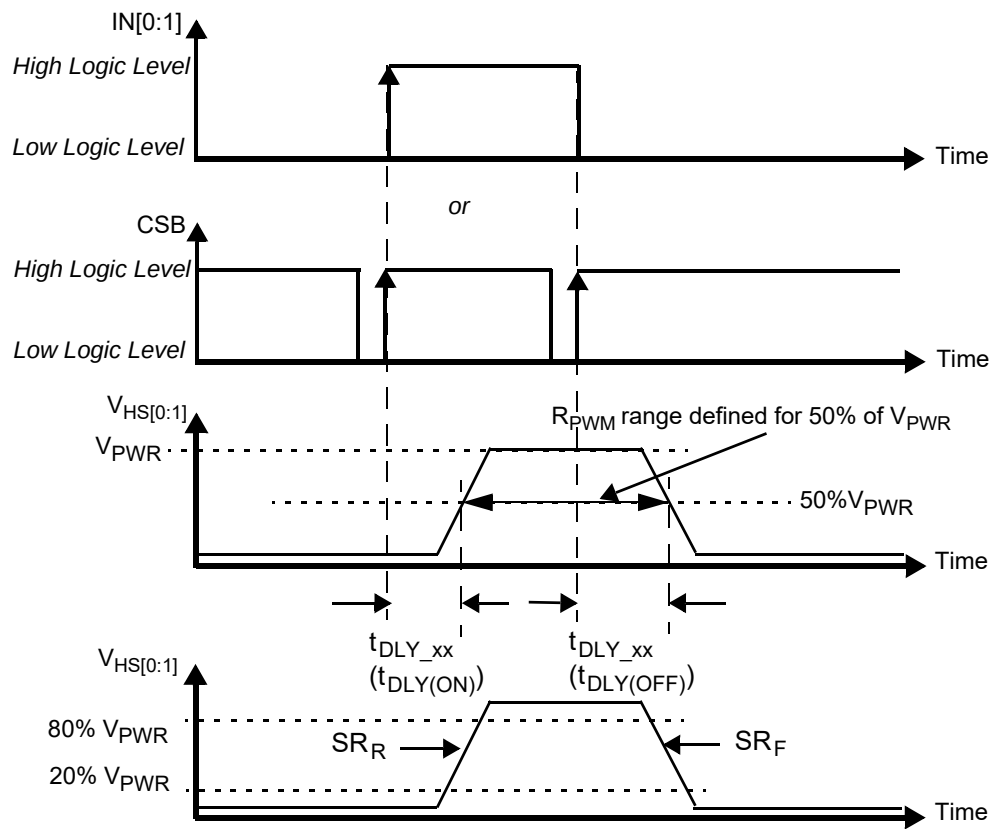
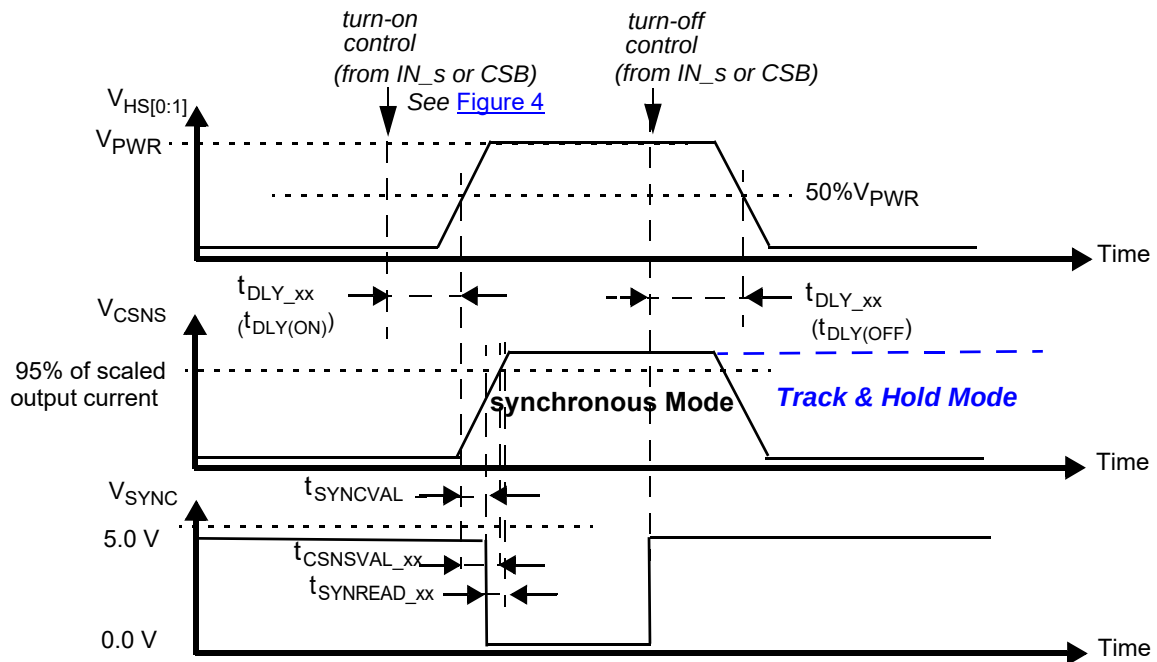

Figure 4. Output voltage slew rate and delay
Figure 9. Synchronous and Track & Hold current sensing modes: associated delay and settling times
30. Rising and Falling edge slew rates specified for a 20 to 80% voltage variation on a $10\text{ }\Omega$ resistive load (see Figure 4).
32. Time required to switch off the channel after detection of overtemperature (OT), overcurrent (OC), SC or UV error (time measured between start of the negative edge on the FSB pin and the falling edge on the output voltage until $V(\text{HS}[0:1]) = 50\%$ of V_{PWR}).
33. Settling time ($= t_{CSNSVAL_xx}$), SYNC output signal delay ($= t_{SYNCVAL_xx}$) and Read-out delay ($= t_{SYNREAD_xx}$) are defined for a stepped load current ($100\text{ mA} < I(\text{LOAD}) < I(\text{OCLX A}_0 \text{ FOR CSNS_RATIO_S} = 1, \text{ AND } 300\text{ mA} < I(\text{LOAD}) < I(\text{OCLX A}_0 \text{ FOR CSNS_RATIO_S} = 0)$). (see Figure 9 and Output current monitoring \(CSNS\))
34. Settling time ($= t_{\text{CSNSVAL_xx}}$), SYNC output signal delay ($= t_{\text{SYNCVAL_xx}}$) and Read-out delay ($= t_{\text{SYNREAD_xx}}$) are defined for a stepped load current ($100\text{ mA} < I(\text{LOAD}) < I_{\text{OCLX A}}$ FOR $\text{CSNS_RATIO_S} = 1$, AND $300\text{ mA} < I(\text{LOAD}) < I_{\text{OCLX A_0}}$ FOR $\text{CSNS_RATIO_S} = 0$). (see Figure 9 and Output current monitoring \(CSNS\))
The CS pin allows independent current monitoring of channel 0 or channel 1 up to the steady-state overcurrent threshold. It can also be used to sense the device temperature. The different functions are selected by setting bits $CSNS1_en$ and $CSNS0_en$ to the appropriate value (Table 23). When the CSNS pin is sensed during switch-off in the (optional) track & hold mode (see Figure 9), it outputs the scaled value of the load current as it was just before turn-Off. When several devices share the same pull-down resistor, the CSNS pins of devices, the current of which is not monitored, must be tri-stated. This is accomplished by setting $CSNS0_en = 0$ and $CSNS1_en = 0$ in their GCR register (Table 12). Settling time ($t_{CSNSVAL_xx}$) is defined as the time between the instant at the middle of the output voltage's rising edge ($HS[0:1] = 50\%$ of V_{PWR}), and the instant at which the voltage on the CSNS pin has settled to $\pm 5.0\%$ of its final value. Anytime an overcurrent window is active, the CSNS pin is disabled (see Overcurrent detection on resistive and inductive loads). The current and temperature sensing functions are unavailable in Fail-safe mode and in Normal mode when operating without the V_{DD} supply voltage. In order to generate a voltage output, this pin requires a pull-down resistor ($R(CSNS)=1.0\text{ k}\Omega$ typ. and $470 < R(CSNS) < 10\text{ k}$). When the current sense resistor connected to the CSNS pin is disconnected, the CSNS voltage is clamped to $V_{CL(CSNS)}$. The CSNS pin can source currents up to about 5.6 mA .
To synchronize current sensing with an external process, the SYNC signal can be connected to a digital input of an external MCU. An open-drain pull-down on SYNC indicates that the current sense signal is accurate and ready to be read. The current sense signal on the CSNS pin has the specified accuracy $t_{SYNCREAD_xx}$ seconds after the falling edge on the SYNC pin (Figure 9) and remains valid until a rising edge is generated. The rising edge that is generated by the SYNC pin at the turn-OFF instant (internal or external) may also be used to implement synchronization with the external MCU. Parameter $t_{SYNCVAL_xx}$ is defined as the time between the instant at the middle of the output voltage rising edge ($HS[0:1] = 50\%$ of V_{PWR}), and the instant at which the voltage on the SYNC-pin drops below 0.4 V (V_{SOL}). The SYNC pins of different devices can be connected together to save micro-controller input channels. However, in this configuration, the CSNS of only one device should be active at a time. Otherwise, the MCU is not be able to determine the source of the SYNC signal. The SYNC pin requires an external pull-up resistor to V_{DD} .